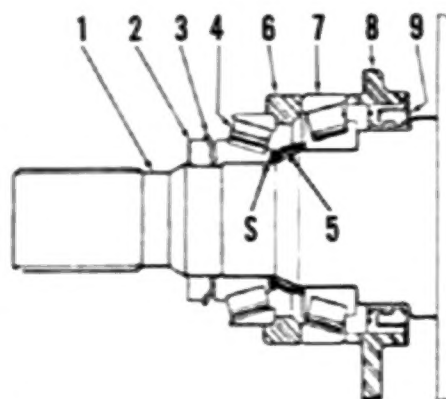
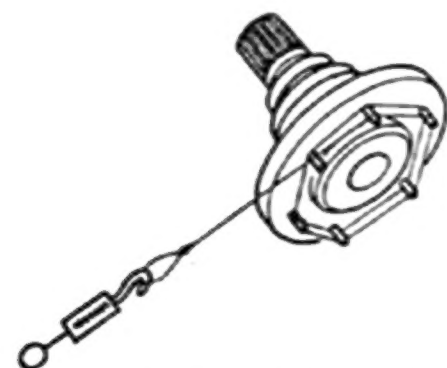

Fig. 9—View showing bearing assembly installed on outer axle shaft.
Fig. 8—Use a cord and spring scale to check pounds pull needed to keep outer axle rotating in bearing assembly. Refer to text.
cord as shown in Fig. 8. Check amount of pull on scale needed to keep axle shaft rotating. Amount of pull required should be 1 to 8 pounds. If the seal is not held away from the outer bearing, seal drag will increase the amount of pull by about 4 pounds. Add or remove shims as required to correct the bearing adjustment. Remove the nut (2—Fig. 9), pack cavity between inner and outer spacers with grease and install lockwasher (3). Apply grease to contact faces of nut and lockwasher and tighten nut to a torque of 310-370 ft.-lbs. Bend tab of lockwasher into one of the notches in the nut. Wrap the assembly in clean paper and lay it aside for later installation.